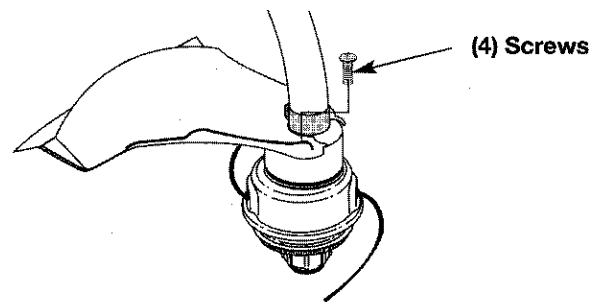

Fig. 6
3. Install the screws with a Phillips screwdriver (Fig. 6).